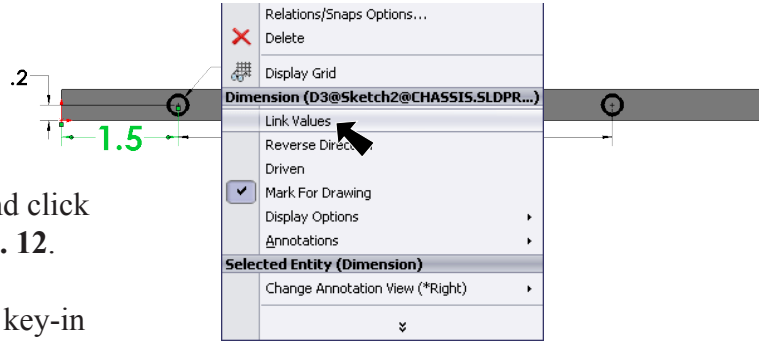

Fig. 12
Step 11. **Right click the 1.5 dimension and click Link Values** from the menu, Fig. 12.